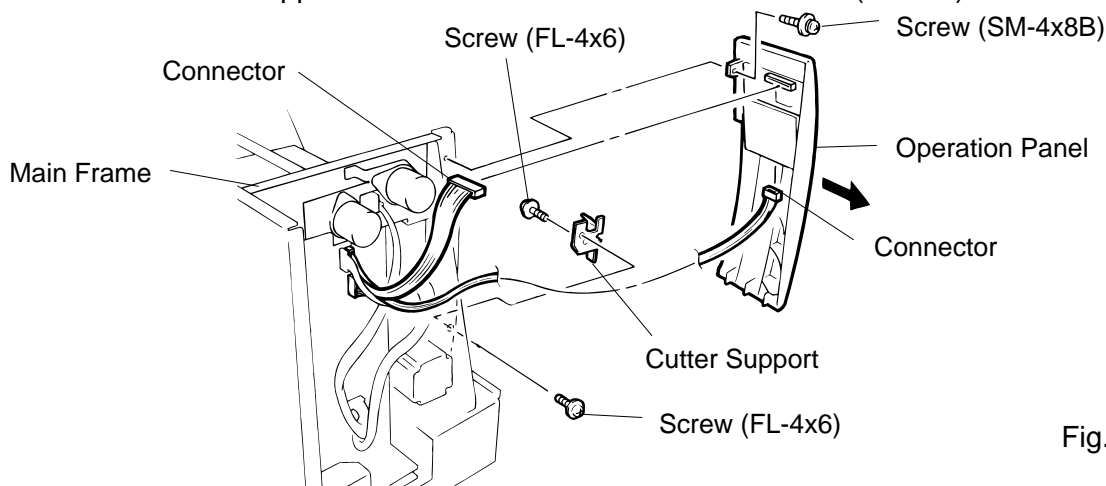

Fig. 3-3
- 4) Remove the operation panel (See Fig. 3-3)